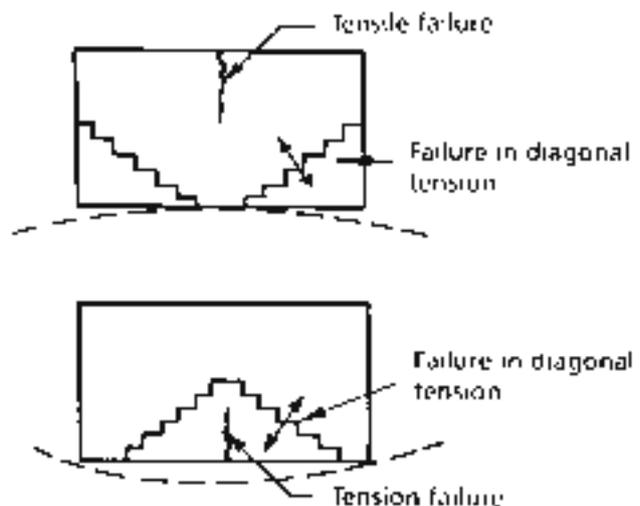

Figure 17 Differential settlement of footings
- Differential settlement of footings (Figure 17).